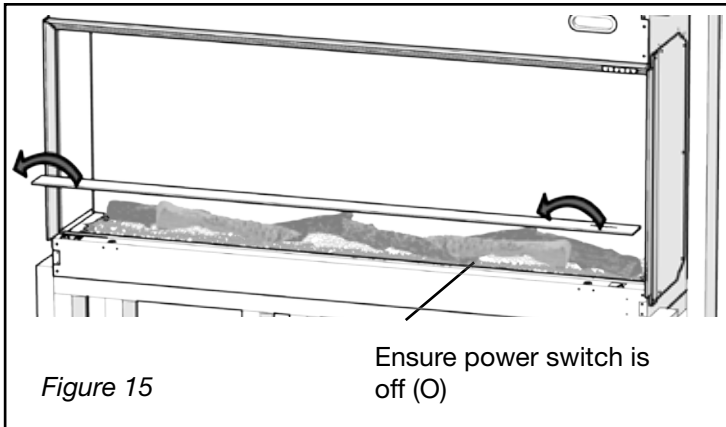

Figure 15
2. Remove magnetic sill trim. (Figure 15)